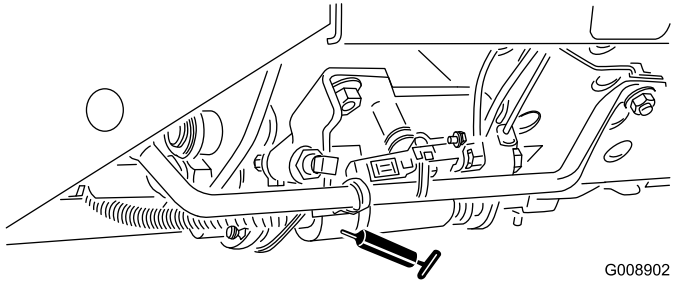

Figure 68
- Mow/transport slide (Figure 68)